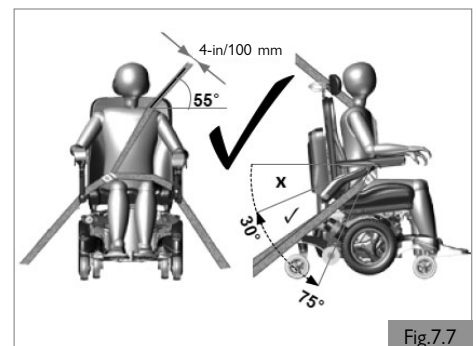
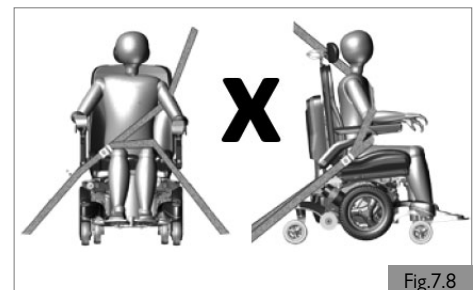

Fig.7.7
Fig.7.8
3. Restraints should be mounted to the appropriate vehicle pillar and should not be held away from the body by wheelchair components such as armrest or wheels (Fig. 7.7).
2. A steeper (greater) angle within the preferred zone is desirable i.e. closer to, but never exceeding 75° degrees (Fig. 7.7).
- a. The upper torso restraint belt must fit over the shoulder and across the chest as illustrated (Fig. 7.7). Restraint belts must be adjusted as tightly as possible consistent with user comfort. Do not fit restraint belt as shown in Fig. 7.8.